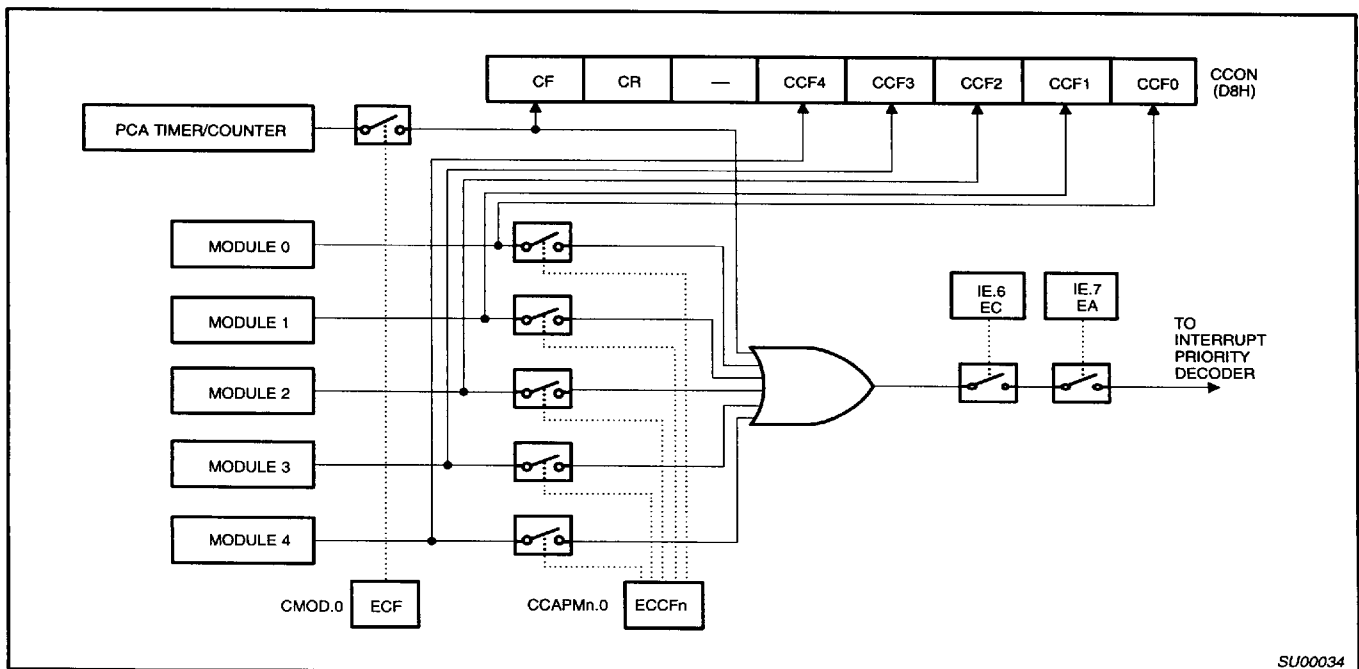
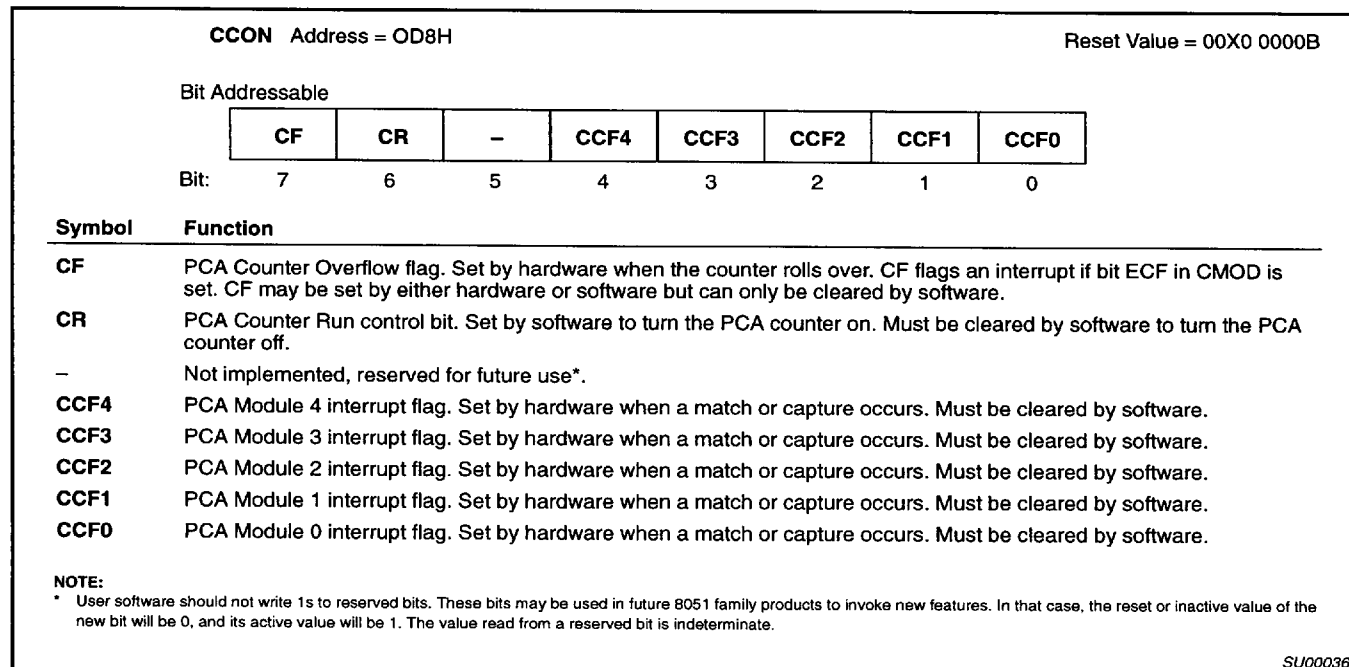

Figure 3. PCA Interrupt System
Figure 5. CCON: PCA Counter Control Register
The CCON SFR contains the run control bit for the PCA and the flags for the PCA timer (CF) and each module (refer to Figure 5). To run the PCA the CR bit (CCON.6) must be set by software. The PCA is shut off by clearing this bit. The CF bit (CCON.7) is set when the PCA counter overflows and an interrupt will be generated if the ECF bit in the CMOD register is set. The CF bit can only be cleared by software. Bits 0 through 4 of the CCON register are the flags for the modules (bit 0 for module 0, bit 1 for module 1, etc.) and are set by hardware when either a match or a capture occurs. These flags also can only be cleared by software. The PCA interrupt system shown in Figure 3.